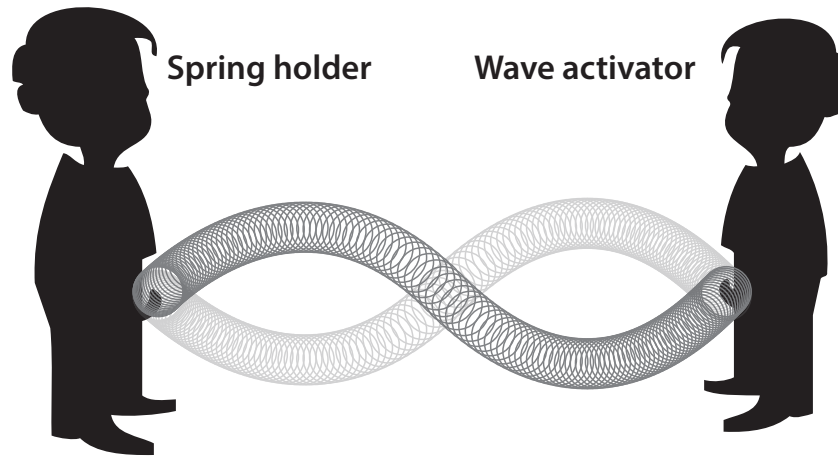

Fig. 7 Transverse wave
1. **Person One will hold one end of the spring (Fig. 7).** Person One should grasp their end of the spring with both hands and hold the spring against their body. The idea is to keep their end of the spring from moving as little as possible. Using a piece of masking tape, mark the spot where Person One stands. Person One should always stand in this spot.